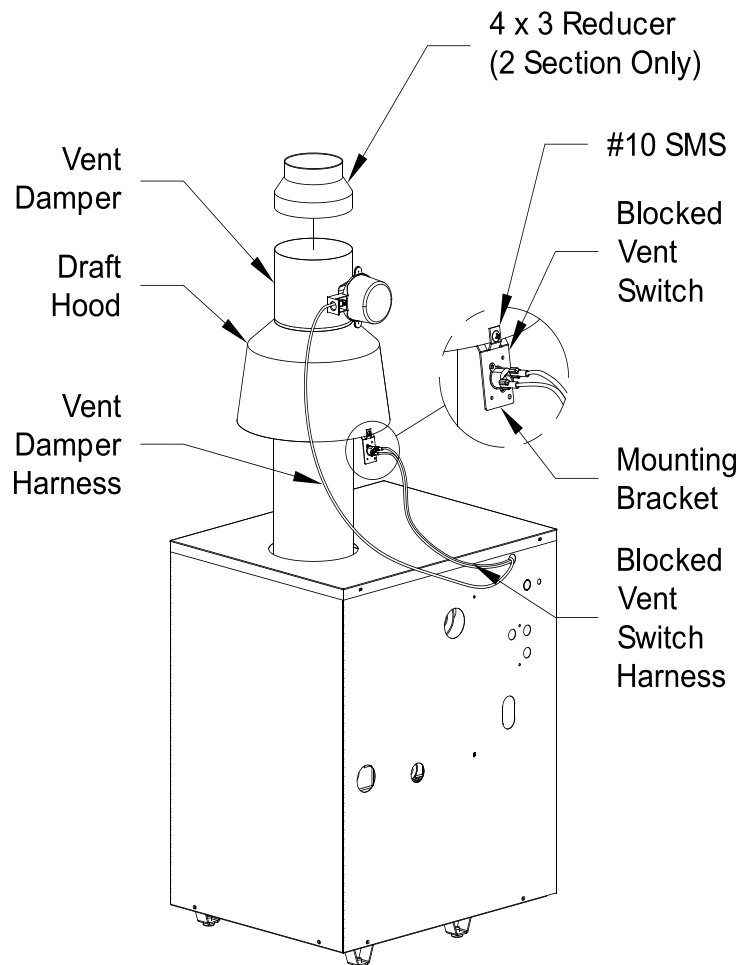

Figure 5-1 : Blocked Vent Switch Installation Diagram
1. Position mounting bracket (with switch attached) onto lower edge of draft hood skirt by locating center tooth (with #10 sheet metal screw) on outside and other two teeth inside draft hood skirt. See Figure 5-1.
3. Be sure power cord, mounting bracket, and switch are secure and located as shown in Figure 5-1.
5. For 2 section boiler only, install supplied vent reducer after damper. See Figure 5-1.